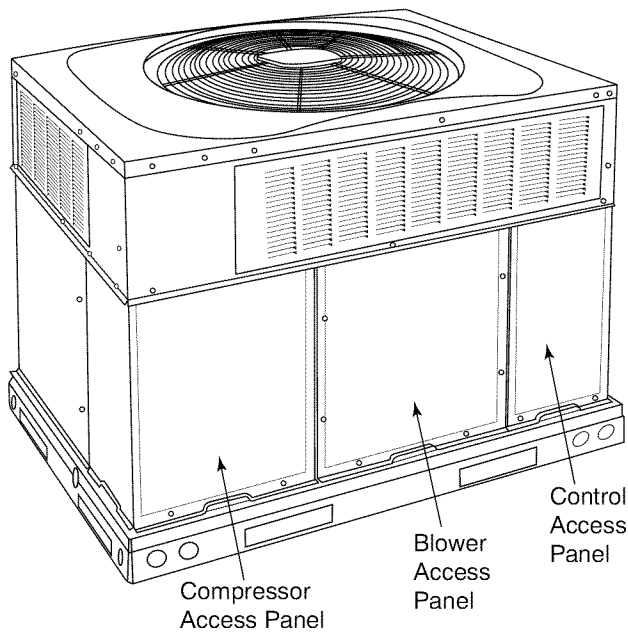

Fig. 19 - Unit Access Panels
- a. Remove blower access panel (see Fig. 19).
- g. Reinstall blower access panel (see Fig. 19).
1. Remove control access panel (See Fig. 19).
Remove blower access panel (see Fig. 19). Limit switch is located on the fan partition.
3. Remove control access panel (See Fig. 19).
Remove access panels (see Fig. 19) to locate all the electrical controls and wiring. Check all electrical connections for tightness. Tighten all screw connections. If any smoky or burned connections are noticed, disassemble the connection, clean all the parts, re-strip the wire end and reassemble the connection properly and securely.